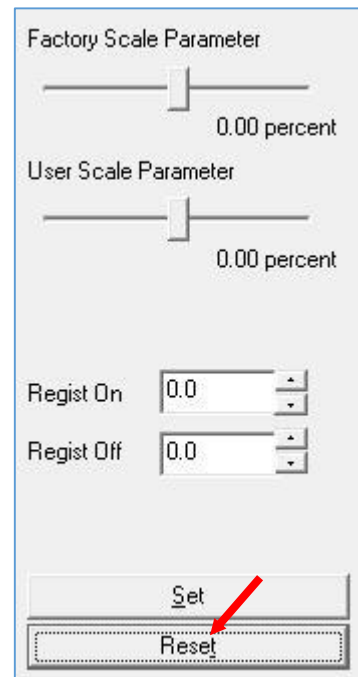

Figure 5-238
- 1) Click the [Reset] button. All of the values change to zero. (Refer to Figure 5-238)